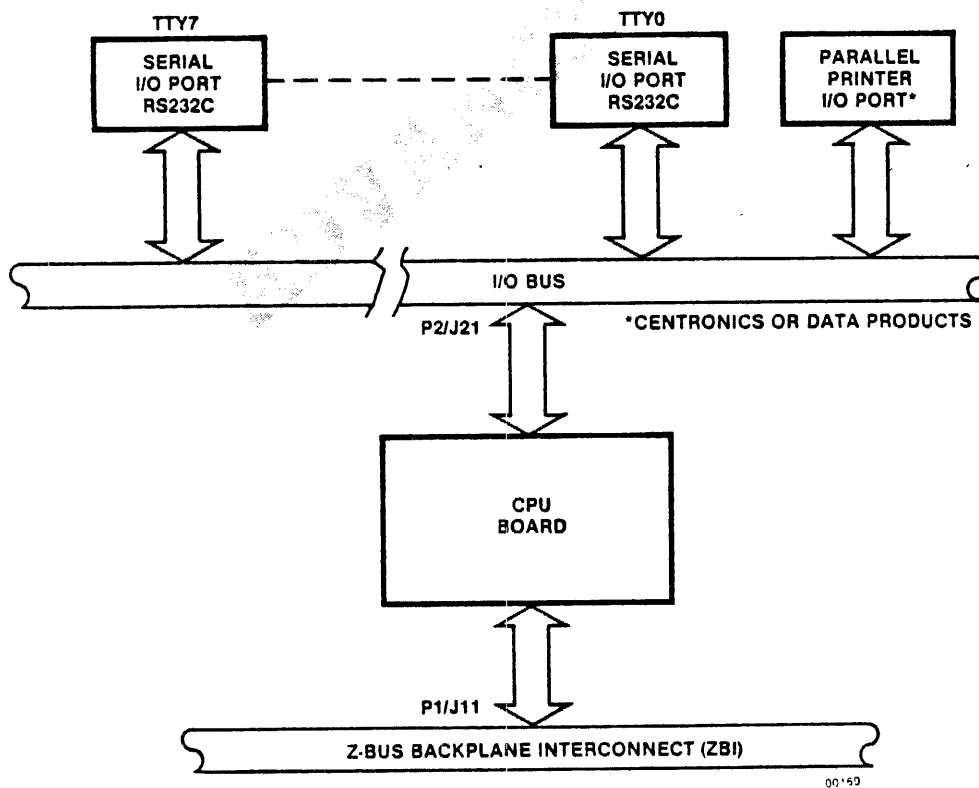

Figure 4-2 CPU Board Functional Diagram
4.2.3.1. CPU Interconnect: The CPU is the I/O bus controlling device, and is sometimes referred to as the host. The CPU (refer to Figure 4-2) at P2/J21 connects directly to and controls the I/O bus. All other transactions pass through either the parallel port or one of the eight serial I/O ports. Table 4-4 lists the CPU I/O bus signals and their definitions.